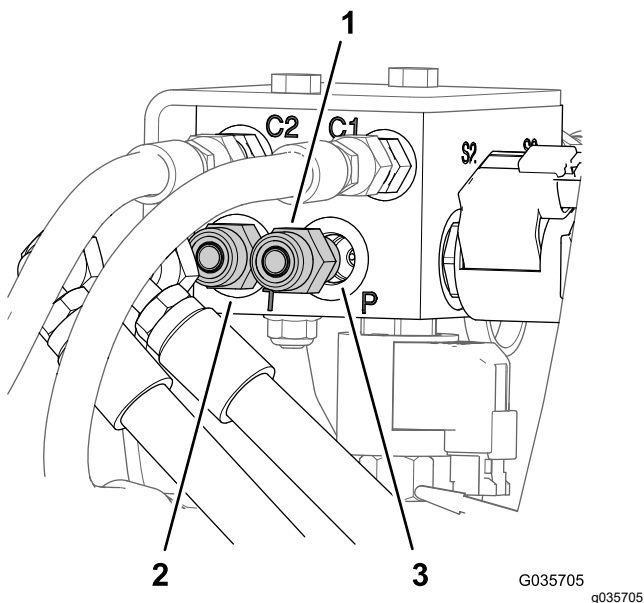

Figure 5
1. At the back of the sprayer, label the hoses at port-P and port-T of the lift-cylinder manifold (Figure 5).
2. Remove the hoses from the straight-hydraulic fittings at port-P and port-T of the lift-cylinder manifold (Figure 5).
3. Remove the straight-hydraulic fittings from port-P and port-T of the old lift-cylinder manifold (Figure 5).